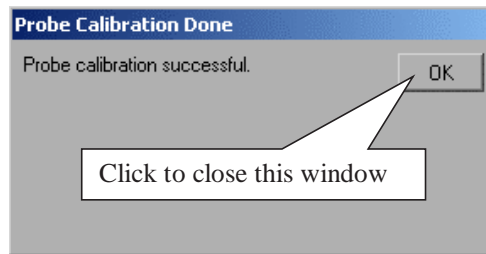

Figure 295 Probe Calibration Done Window.
- 7 Referring to Figure 295 below, perform the following steps: